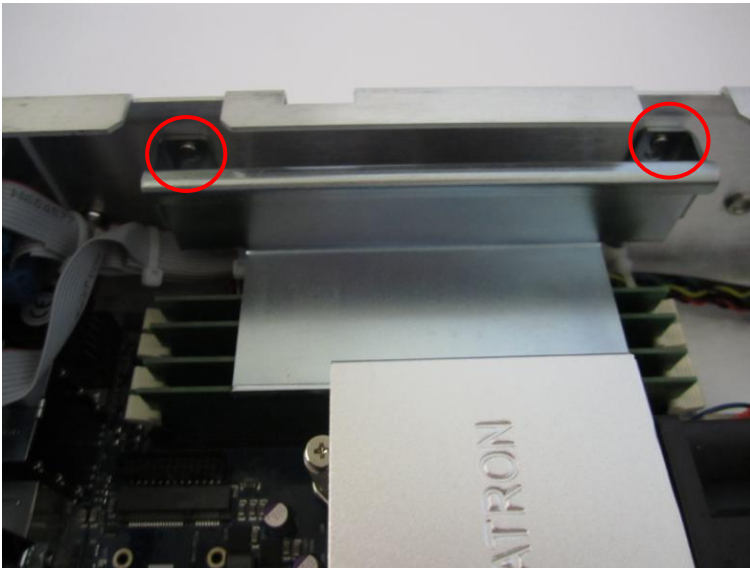

Fig. 25: Memory cards with memory hold down bracket
1. Unscrew memory protection bracket from the chassis side wall by unscrewing the two screws on the memory hold down bracket (see figure 25)